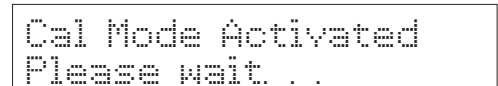
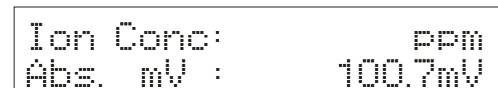

Figure 50
Figure 51
5. Press **>/CAL** to enter the ion calibration mode. The display will flash *Cal Mode Activated, Please wait...* See **Figure 50**. The display then shows *Ion Conc: ppm* (or unit selected in ion setup mode) in the upper display and *Abs. mV:* in the lower display. See **Figure 51**.